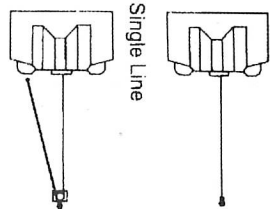

Figure 1
2. **DO NOT OVERLOAD. FOR LOADS OVER 1000LBS/1250LBS/1500LBS, WE RECOMMEND THE USE OF THE OPTIONAL PULLEY BLOCK TO DOUBLE LINE THE WIRE ROPE(Figure 1)**